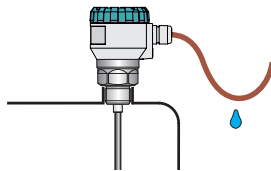

Fig. 18: Prevention to avoid intrusion of humidity through cable gland
- It is appropriate to lead the cable underneath the cable terminal (through the dip diagonally downwards) This will prevent potential **ingression of moisture through the cable grommet**. Thereby, rain and condensing water can flow away freely, fig. 18.